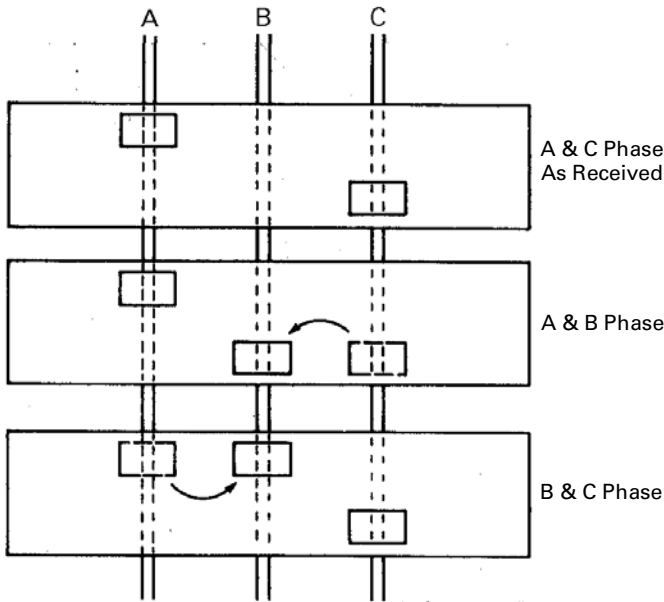

Figure 1. Repositioning the bus clip to balance the load.
**1. Phase balancing for two-pole devices in three-phase systems.** To balance the panelboard load, remove the screws on the appropriate bus clip, reposition the bus clip as shown in Figure 1, then install and tighten the screws to 27–32 in-lb.